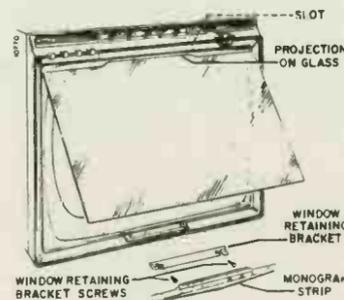

Figure 18. Illustration of Picture Window Mounting.
The picture window of these receivers is removable from the front of the cabinet. To remove the picture window, see figure 18 and proceed as follows:
- c. After removal of the retaining bracket, grasp the lower part of the window at the lower center. Gently pull outward and allow the window to slide downward from the position shown in figure 18 until it clears the cabinet. To avoid scratching window frame, keep bottom of glass away from lower part of frame.
- a. Holding window at bottom, first slide projection at top of glass into slot at top of frame. See figure 18. Gently guide lower edge of glass into frame.